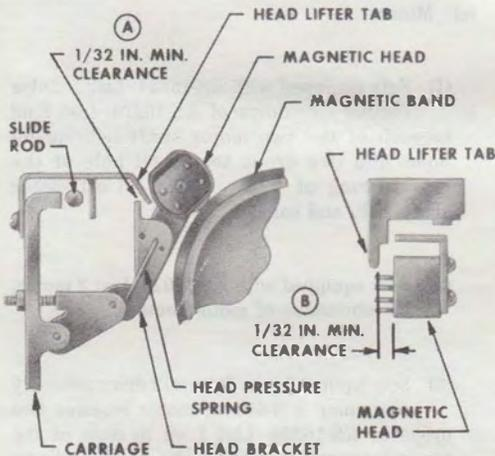

Fig. 13—Head Lifter Tab Clearance
3.25 *Magnetic Head Lifter Tab Position (Fig. 13):*